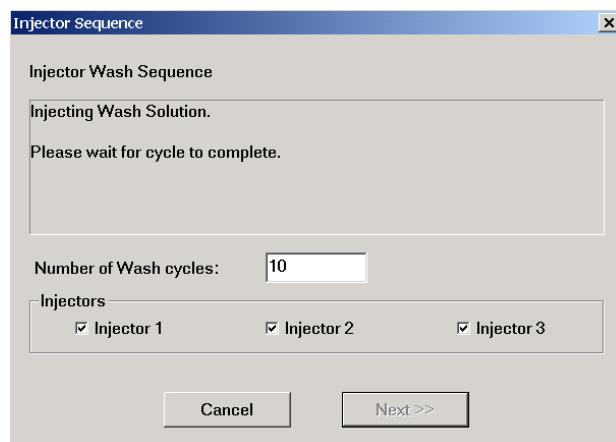

Figure 5-17: Washing the tubings
- Then the selected injector tubings are washed using the number of wash cycles defined in this dialog box. The **Injector Sequence** dialog box displays a corresponding message. Wait until the process is finished (Figure 5-17).